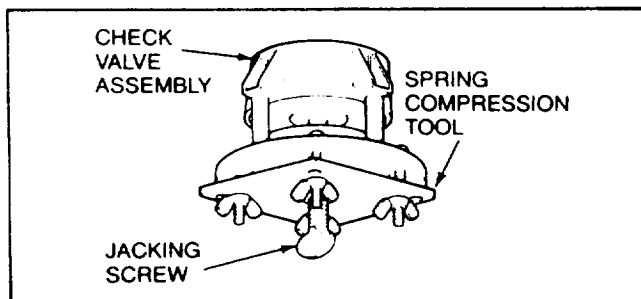

Figure 11. CLEANING 1 1/4", 1 1/2" AND 2" CHECK VALVE
- Attach the spring compression tool (see Fig. 11) with 4 machine screws